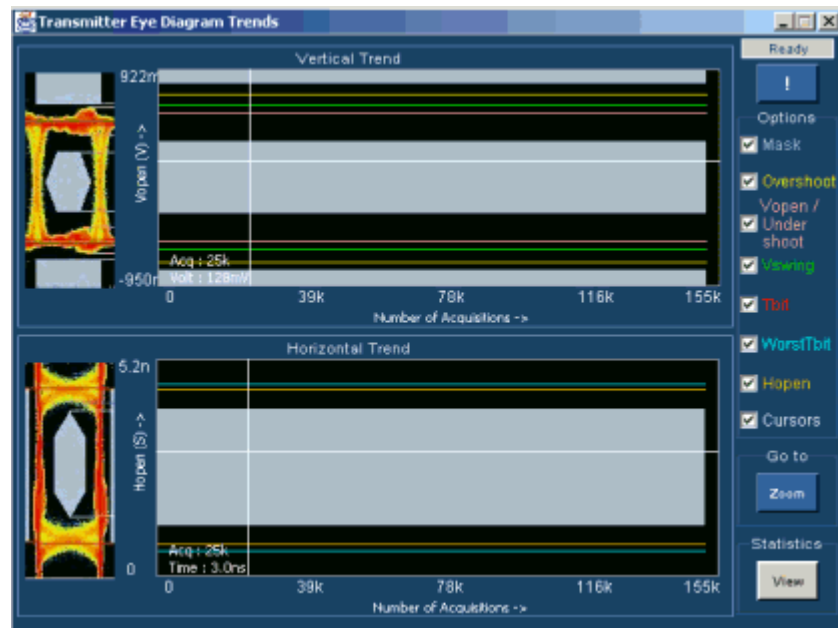

Figure 3-30: Eye trends in TDS6000 series oscilloscopes
- Display the eye progression as shown in Figure 3-30
- Display the Vertical and Horizontal trends of the eye diagram parameters such as Mask, Vswing, Overshoot, Undershoot, Tbit, Worst Tbit, Hopen and Vopen as shown in Figure 3-30